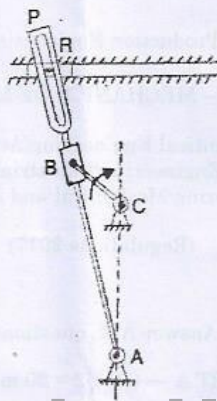

Fig. 11 (a)
11. (a) (i) Explain any two inversions of a Single Slider Crank Chain mechanism. (5)
- (ii) The Figure 11(a) shows the layout of a quick return mechanism of the oscillating link type, for a special purpose machine. The driving crank BC is 30 mm long and time ratio of the working stroke to the return stroke is to be 1.7. If the length of the working stroke of R is 120 mm. determine the dimensions of AC and AP. (8)